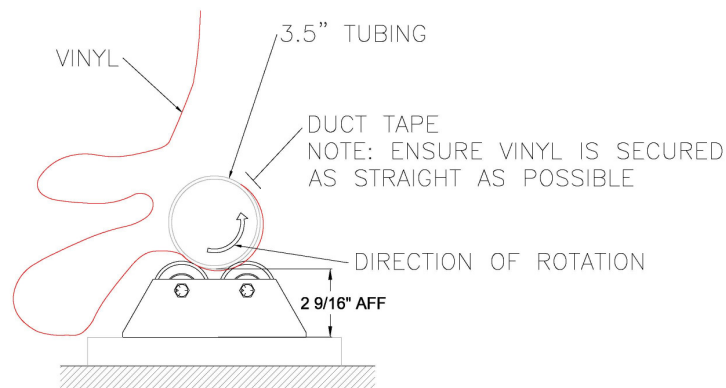

Figure 4. Illustration of attaching curtain vinyl to lower batten pipe.
2. Feed the free end of the vinyl under the 3.5” O.D. pipe as shown in figure 4. Attach end of vinyl to pipe with duct tape as shown in figure 4.